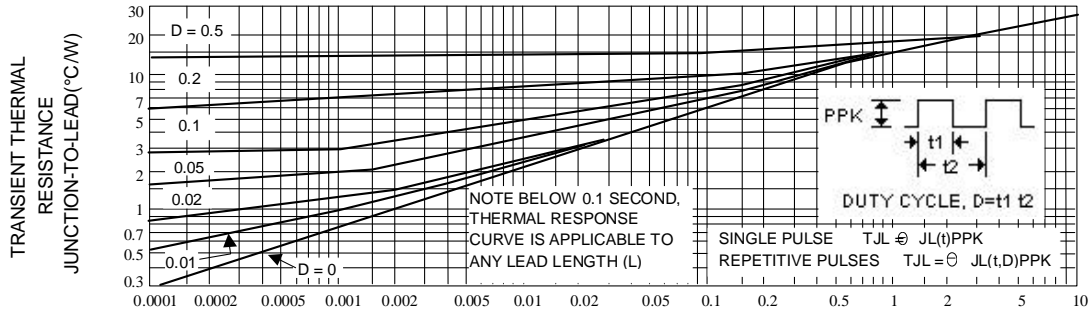
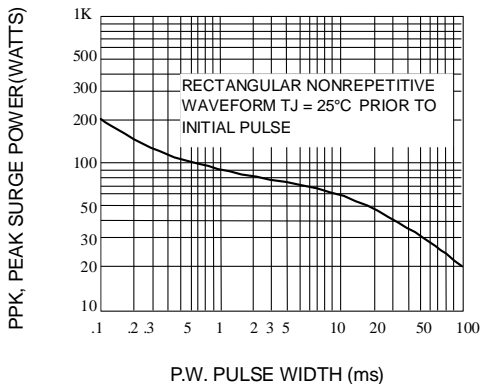

Fig. 2-TYPICAL THERMAL RESPONSE L,
Fig. 3-MAXIMUM SURGE POWER
4. SURGE CURRENT (I_R) NON-REPETITIVE - The rating listed in the electrical characteristics table is maximum peak, non-repetitive, reverse surge current of 1/2 square wave or equivalent sine wave pulse of 1/120 second duration superimposed on the test current, I_{ZT} , per JEDEC standards, however, actual device capability is as described in Figure 3.
ΔT_{JL} is the increase in junction temperature above the lead temperature and may be found from Figure 2 for a train of power pulses or from Figure 10 for dc power.
Data of Figure 2 should not be used to compute surge capability. Surge limitations are given in Figure 3. They are lower than would be expected by considering only junction temperature, as current crowding effects cause temperatures to be extremely high in small spots resulting in device degradation should the limits of Figure 3 be exceeded.